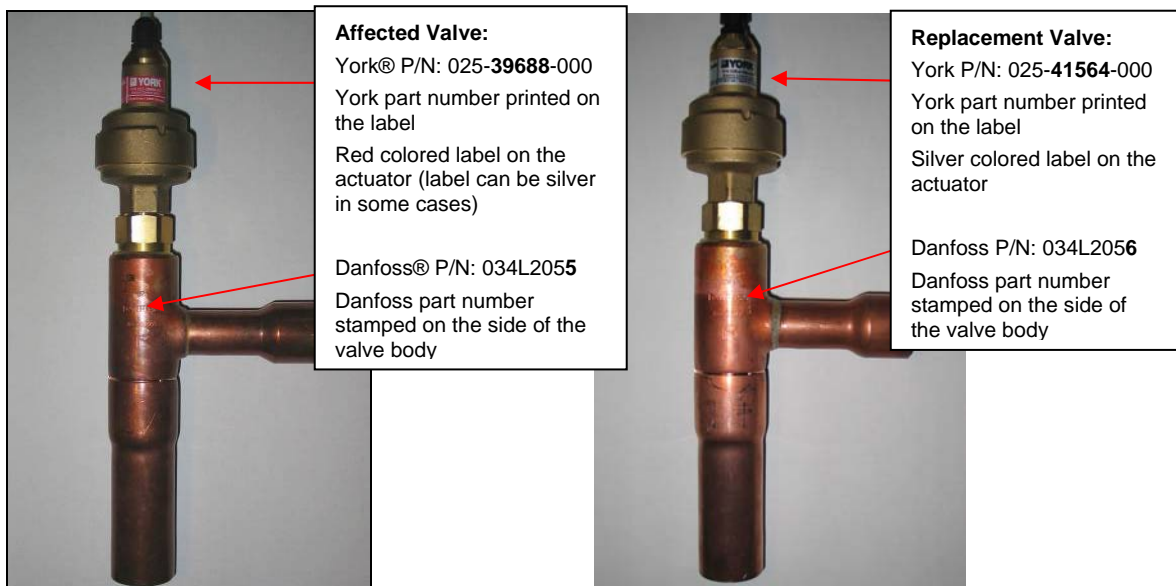

Figure 1: Feed and Drain Valve Example
Figure 1 shows an example of the affected 025-39688-000 valve and its 025-41564-000 replacement valve.
**Note:** Externally, both the original and the replacement valves appear virtually identical other than the part number. Use Figure 1 to identify old and new valves as required.